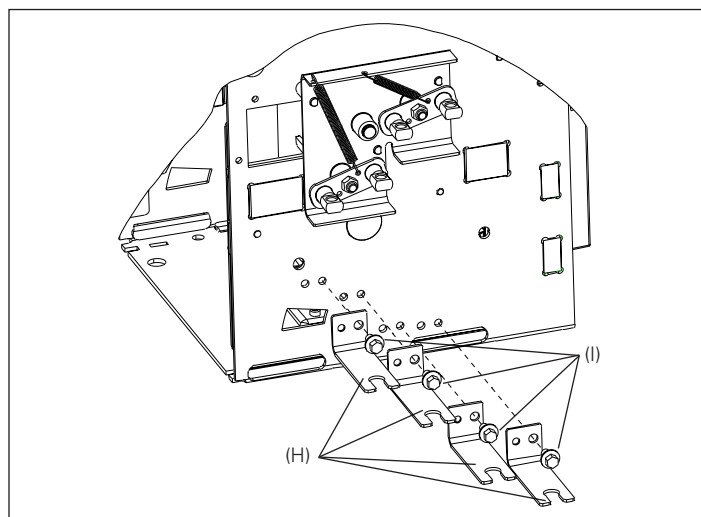

Figure 8. Details for Step 4
Fasten four cable brackets (H) to the drawout cassette's right-side sheet, just below interlock assembly mounted in **Step 3**, using four M6 x 10 mm thread-forming screws (I) as shown in **Figure 8**. Torque to 7,3–9,6 N·m (65–85 in-lb).